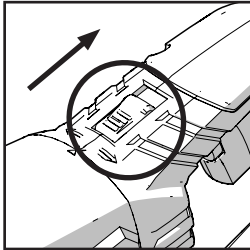

Fig. 8
- Slide and hold the handle rotation button backwards. **(Fig. 8)**